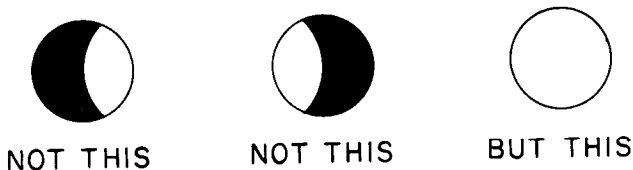

Figure 6
3. Scanner must have unobstructed view of both pilot and main flames (Fig. 6).